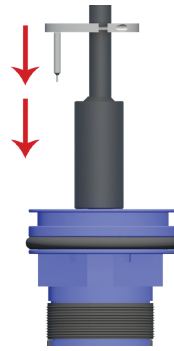

Figure 31A
F.8) Slide the Auto Equalization adapter over the top of the knurled handle of the insertion tool and over the larger-OD bell-like portion of the insertion tool (see Figures 31A and 31B).